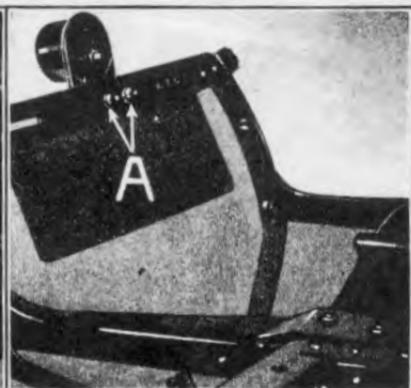

Fig. 50
- 53 **Remove tail lamp and license bracket** by running out the two bolts and nuts which hold bracket to spare rim carrier (See "A" Fig. 50).